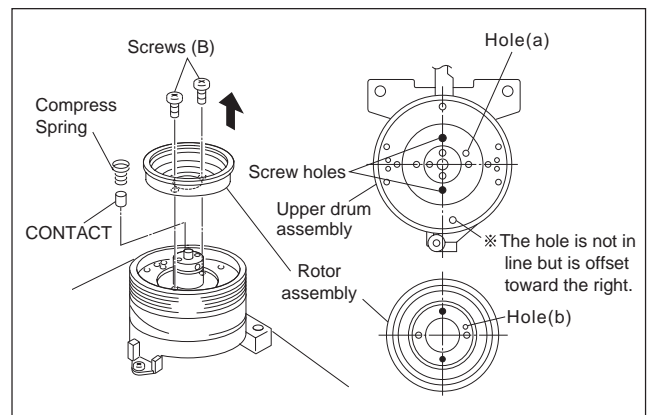

Fig.3-2-24a
- (1) Match the phases of the upper drum assembly and the rotor assembly as indicated in Fig.3-2-24a.
- (2) Place the upper drum assembly hole (a) over the rotor assembly holes (b) (with three holes to be aligned) and tighten the two screws (B). (See Fig.3-2-24a.)